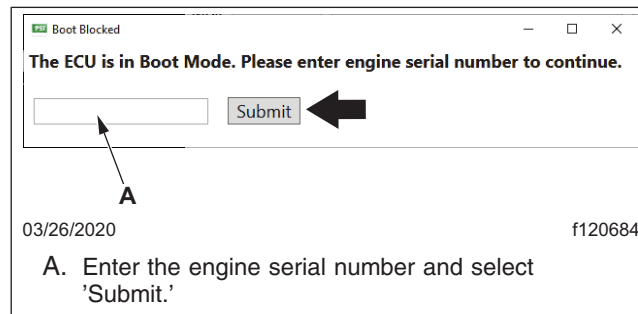

Fig. 16, Entering the Engine Serial Number in the Boot Blocked Window
1. If Boot Mode is detected by the PSI Field Programmer, the window shown in Fig. 16 will appear. Enter the engine serial number and select 'Submit' to recover the ECU and continue programming.